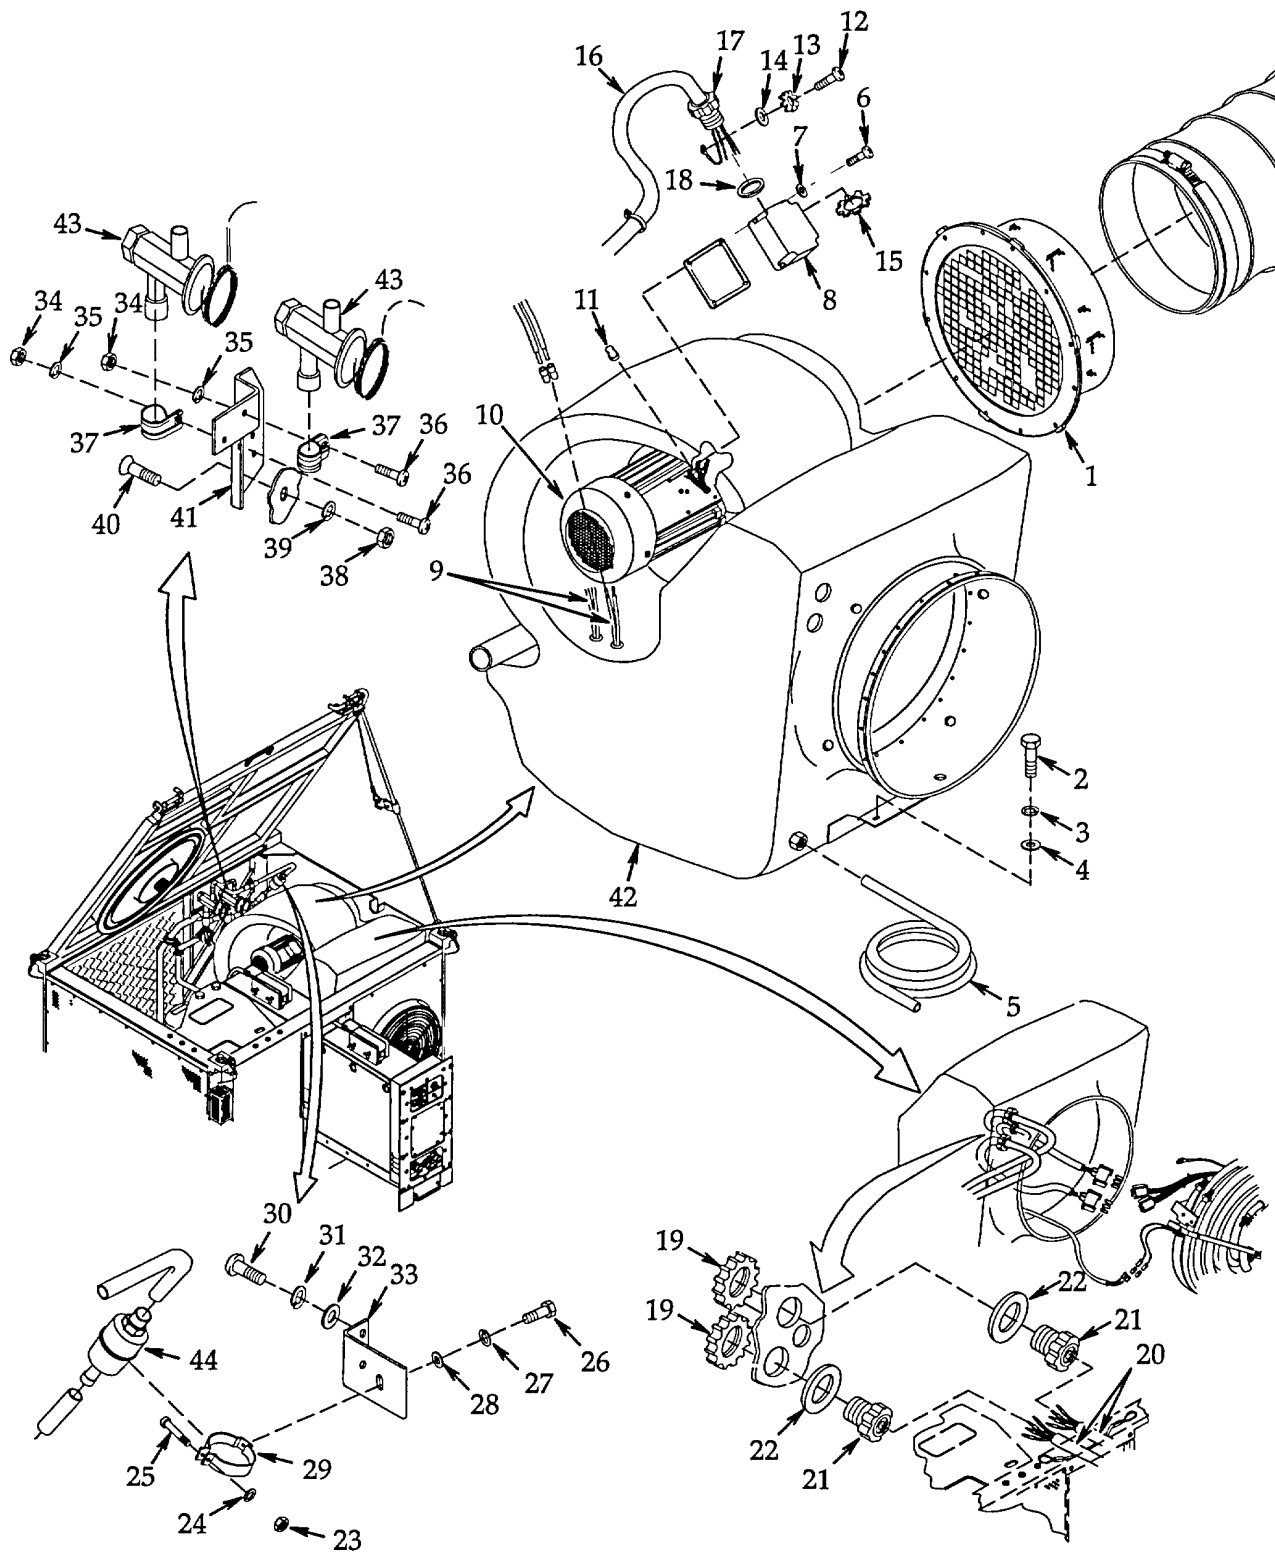

Figure 5-9. Air Handling Assembly
- a. **Removal.** See figure 5-9.
- (1) Remove heater assembly per paragraph 4.46.
- (2) Remove cover per paragraph 4.14.
- (3) Disconnect duct from flange assembly (1) if attached then turn flange assembly counterclockwise to unlock and remove. Install the flange assembly with the perforated duct collar facing in (opposite the way it was removed). Align slots and turn clockwise to lock in place.
- (4) Remove end panel per paragraph 4.20.
- (5) Remove access panel per paragraph 4.21.
- (6) Remove four screws (2), lock washers (3), and flat washers (4)(two front and two rear). Discard lock washers.
- (7) Remove insulation from tubing as necessary.
- (8) Loosen connection and remove drain hose (5).
- (9) Remove four screws (6) and flat washers (7). Carefully pull inside blower motor cover (8) out as far as wire leads will allow.
- (10) Tag and disconnect wire leads from inside air temperature sensor (9) and inside blower motor (10).
- (20) Remove and recover system refrigerant per paragraph 5.4.
- (21) Purge the refrigerant system per paragraph 5.5 then de-braze the air handling assembly (42) connections per paragraph 5.6.
- (22) Carefully lift the air handling assembly (42) out of the FDECU using an appropriate lifting device and sling.
b. **Installation.** See figure 5-9.
- (1) Carefully lower the air handling assembly (42) into the FDECU using an appropriate lifting device and sling.